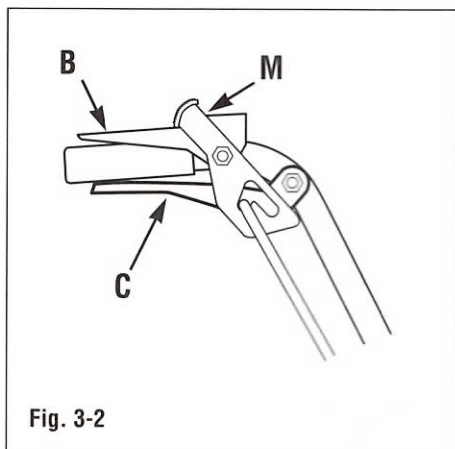

Fig. 3-2
The wheel drive levers consist of two parts: Wheel drive levers (C, Fig. 3-2), which engage and disengage the drive wheels, and thumb latches (M), used for locking the wheel drive levers into the disengaged (freewheel) position.